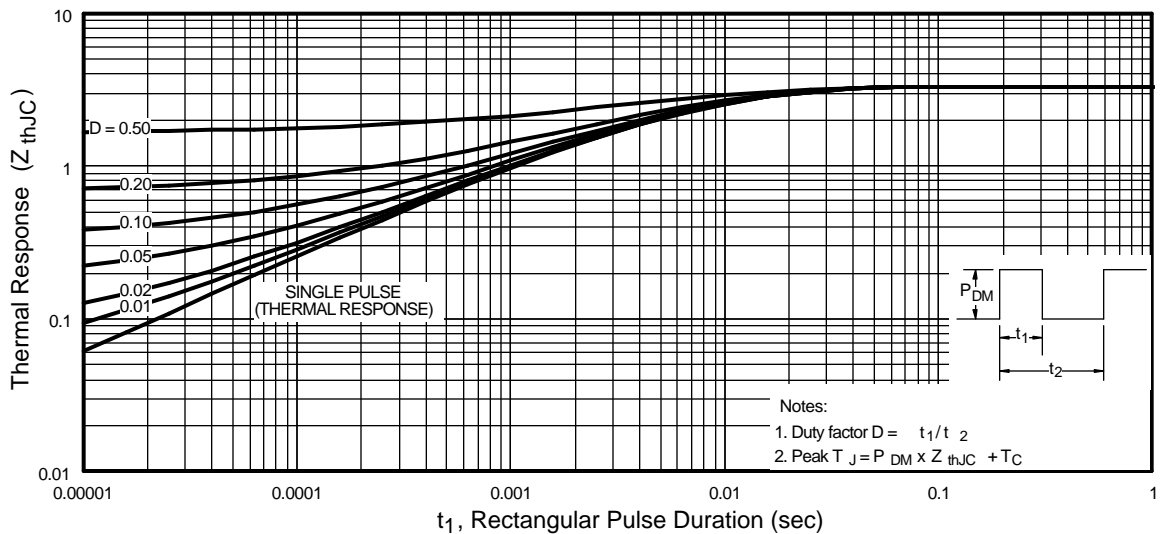

Fig 11. Maximum Effective Transient Thermal Impedance, Junction-to-Case
- ① Repetitive rating; pulse width limited by max. junction temperature. (See fig. 11)
- ② Starting $T_J = 25^\circ\text{C}$, $L = 1.0mH$